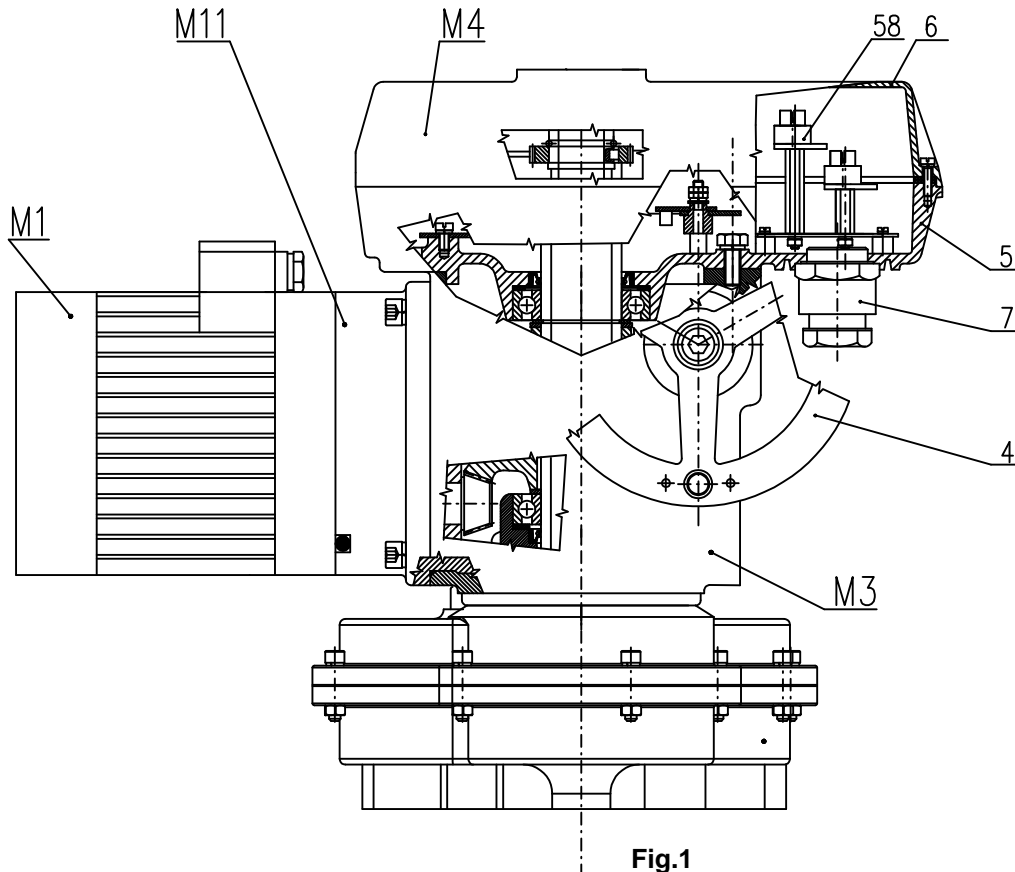

Fig.1
- Electric actuators must be placed with access to the manual control wheel (4) (Fig.1), to the cover of control box (6), to control box (M4), to bushings (7).
Electric multi-turn actuators **MO** consist of these modules (Fig.1):
Module M 4 – control box (Fig. 1)
- position unit (11)
- signalling unit with gear unit (12)
- torque unit (9)
- transmitter unit (33) (according to EA specification)
- heating resistor (16) with thermal switch (15)
- controller (only for EA **MO** with controller) (14)
- reversing contactors (13) (according to EA specification)
- electrical connections by means of terminals (58) (Fig.1) situated within terminal box, and cable bushings (7) (Fig.1), or connector with cable bushings